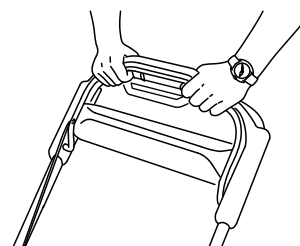

Figure 21
- Hold the blade-control bar against the handle (Figure 21).